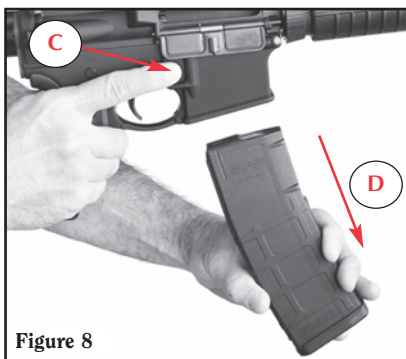

Figure 8
1. Removing the magazine. (See Figure 8.)